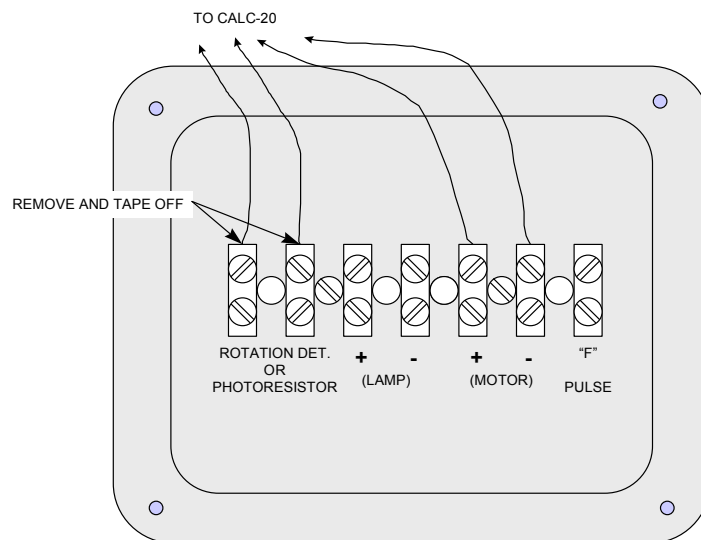

Figure 3-22
- (2) Four wires should already lead from the terminal strip on the cover plate; two for the drive motor and two for the rotation detector. Remove the two for the rotation detector and cover the ends with tape, or remove the wires completely from the CALC-20. They will not be used. See Figure 3-22
- (3) Insert the power cable (12 AWG wires in conduit/liquidflex; wires must be shielded) through the stuffing tube into one of the threaded openings in the base.
- (4) Remove 12 inches of outer jacket and strip  $\frac{1}{4}$  in of insulation from each conductor.
- (9) Release the 8 thumb latches located on the lower ring of the glazing assembly by rotating them 180 degrees. Carefully lift the glazing **straight** up from the beacon and set aside.